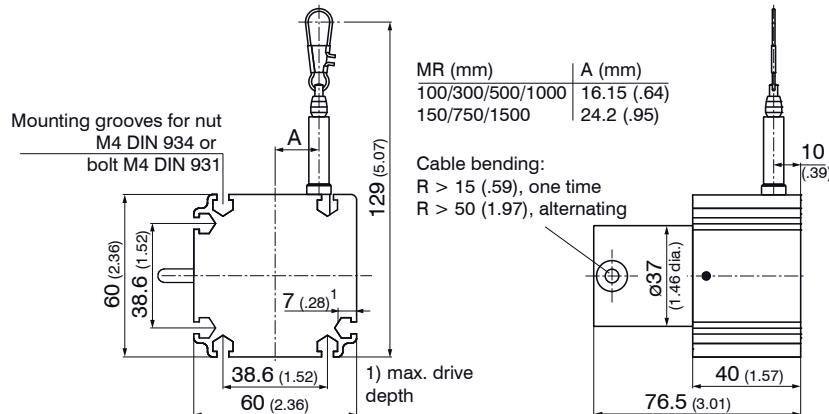
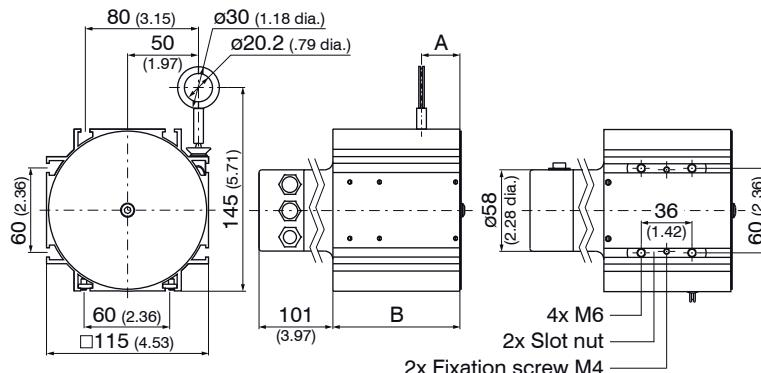

Fig. 2 Dimensional drawing WDS-...-P60-CR-P, dimensions in mm (inches), not to scale
Fig. 16 Dimensional drawing WDS-... - P115 - CO/PB, dimensions in mm (inches), not to scale
- Mount the sensor through mounting grooves for nut M4 DIN 934 or bolt M4 DIN 931, see Fig. 2 up to, see Fig. 16.